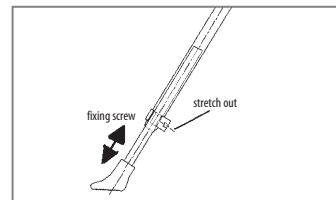
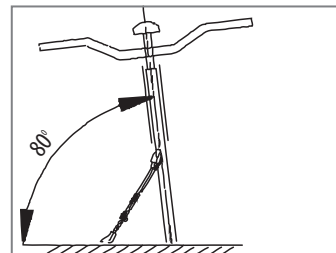

Fig. 80. Stretching the support out
Fig. 81. Stand adjustment
3. Fold the frame arm, Fig. 80.
Stretch the stand at the appropriate length so the bicycle stands on its own, Fig. 80 and Fig. 81.